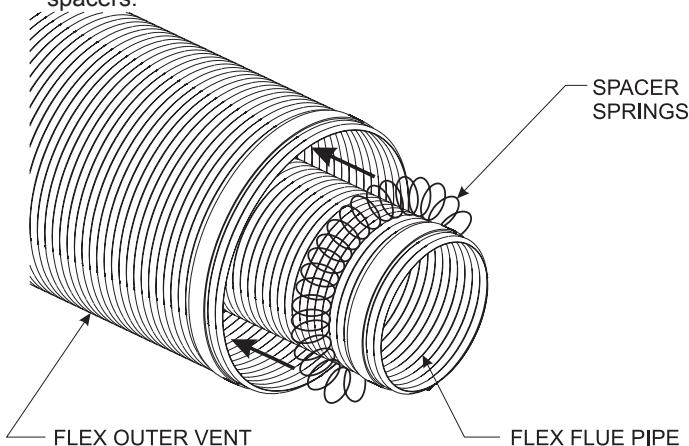

Figure 54
2. Check to see that the vent spacer springs are located around the flue vent at 8in intervals along its length. **See Figures 54 & 55.** If not, stretch the spacer springs to about 15in long and wrap them around the flue, then interlock the ends of each spring. Maintain equal distance between spring spacers.